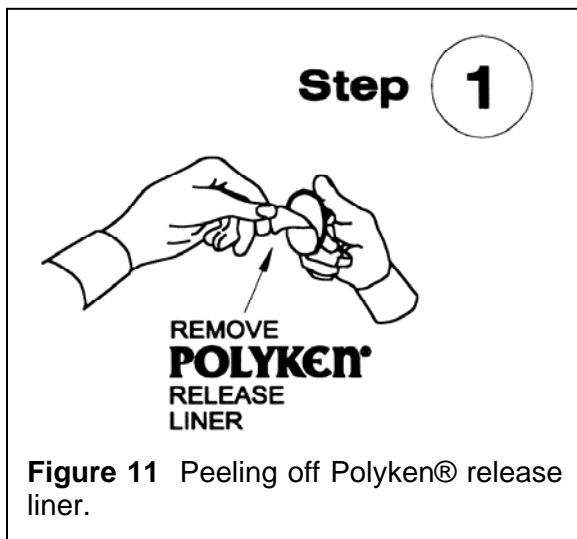

Figure 11 Peeling off Polyken® release liner.
Step 1. Using one of the release liner removal techniques, peel back the liner. See Figure 11.